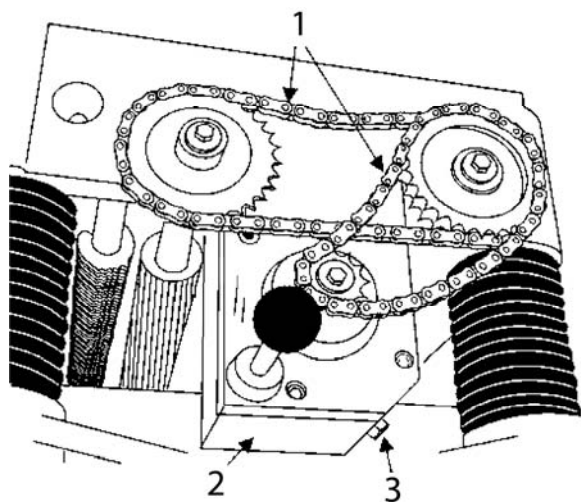
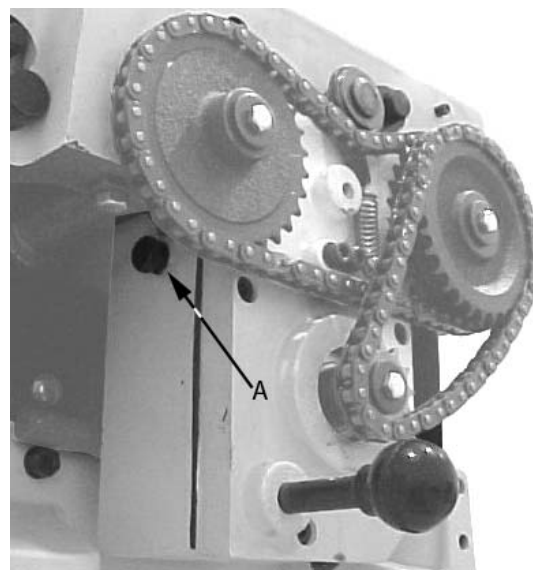

Figure 39
Figure 40
1. Remove the drain plug (3, Fig. 39), and filler cap (A, Fig. 40). Drain dirty oil thoroughly.
2. Tighten the drain plug (3, Fig. 39).
3. Fill with clean lubricant through hole (A, Fig. 40).
Tighten filler cap (A, Fig. 40).